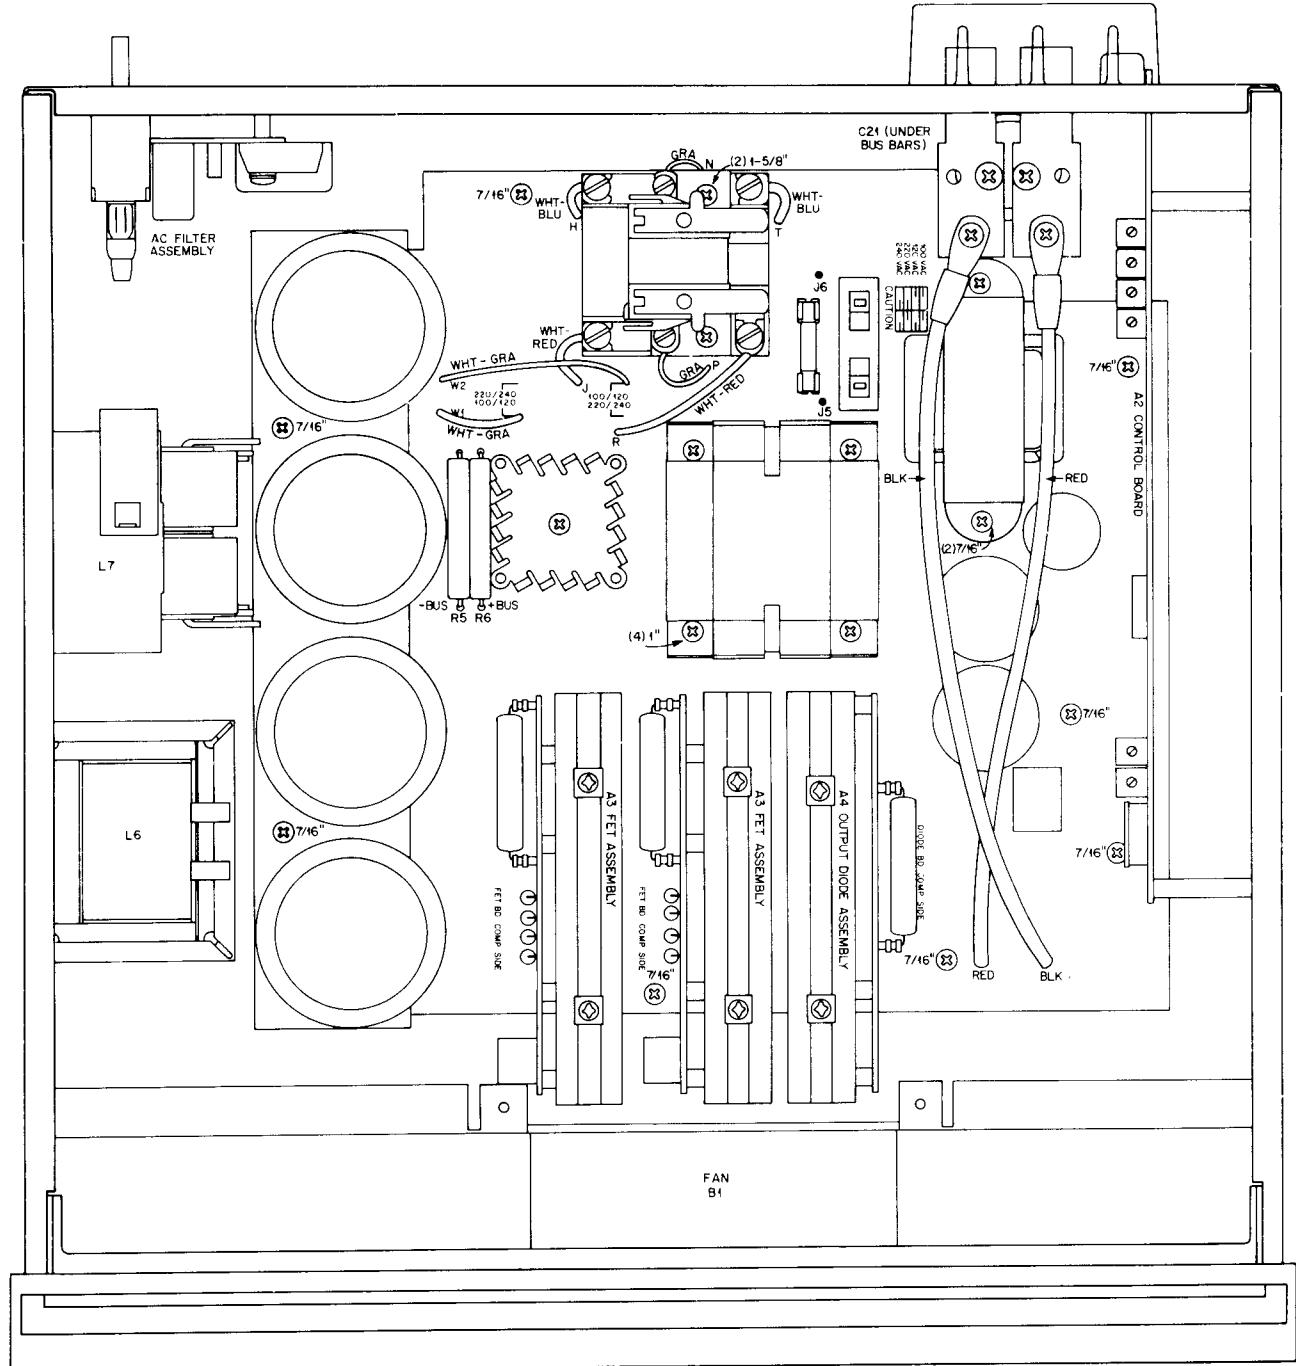

Figure 7-1. Top View, Top Cover and Heatsink Cover Removed.
- a. Top view of unit with covers removed. (Figure 7-1), showing sub-assembly locations, chassis-mounted components, main board mounting screws, troubleshooting test points, and wire colors.